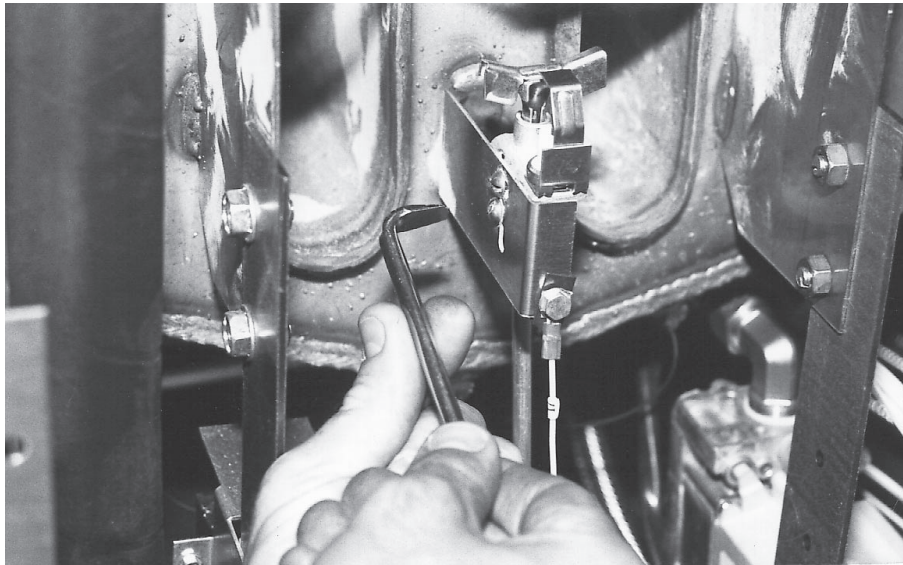

Fig. 31
7. With an offset flat blade screwdriver remove the pilot assembly from the mounting bracket. (Fig. 31)